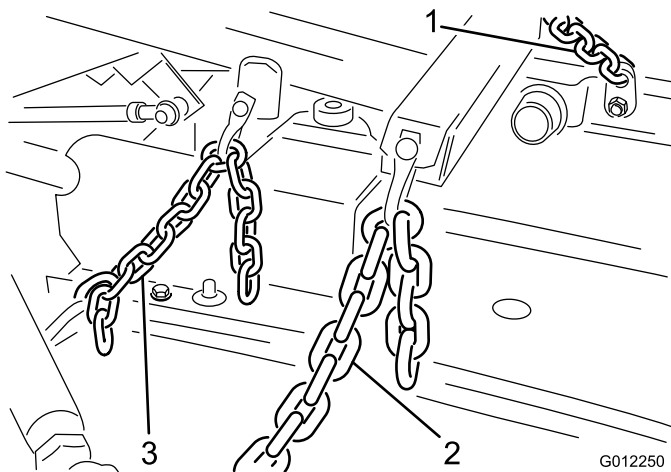

Figure 12
1. Connect the lift chains to the lift arm and cutting unit chain brackets with 6 shackles, shackle pins (3/8 x 1-1/2 inches), and cotter pins (1/8 x 3/4 inch) (Figure 12). Adjust the chain length so that both become tight at the same time when lifting the lift arm.
2. Connect the ends of the tension spring between the fourth link of the rear chain and the eye of the cotter pin that holds the cylinder pin in place (Figure 12). Adjust the length of the chain so that the rear caster wheels are off of the ground in the transport position